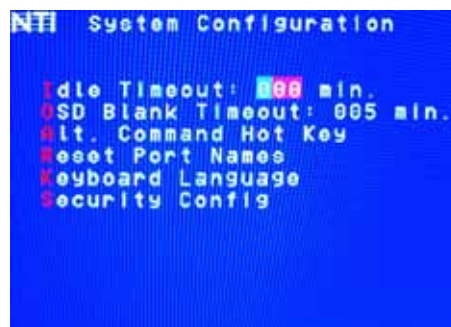

Figure 27- Change value of Idle Timeout
1. press  from the System Configuration menu (page 21) to display the pink edit field around the value (see Figure 27)